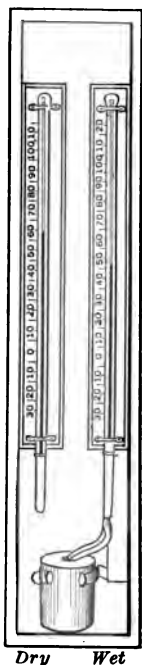

FIG. 176. — Wet and dry bulb thermometers.
**208. Wet and dry bulb thermometers.** Let two thermometers be arranged as shown in figure 176. The bulb of the thermometer at the left is dry, while the other thermometer has its bulb wrapped with cotton cloth which is kept moist by a cup of water. If we keep the air around the thermometers circulating by an electric fan, after a